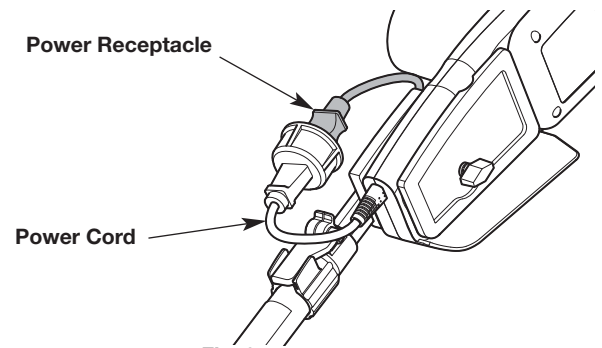

Fig. 3
7. Connect the power cord on the chain saw to the power receptacle on the pole (Fig. 3).
2. Disconnect the power cord on the chain saw from the power receptacle on the pole (Fig. 3).